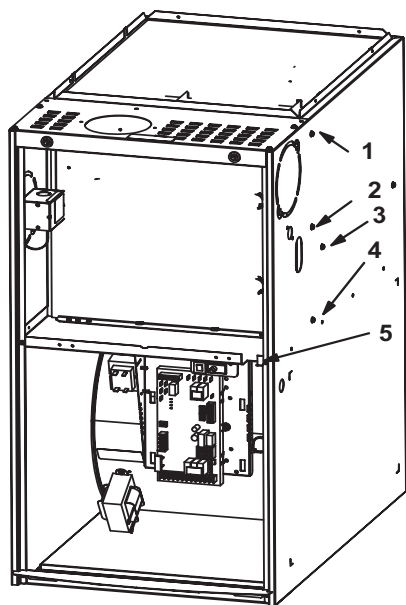

FIGURE 28
- 8 - Remove heat exchanger. It may be necessary to spread cabinet side to allow more room. If so, remove five screws from the left side or right side of cabinet. See FIGURE 28.